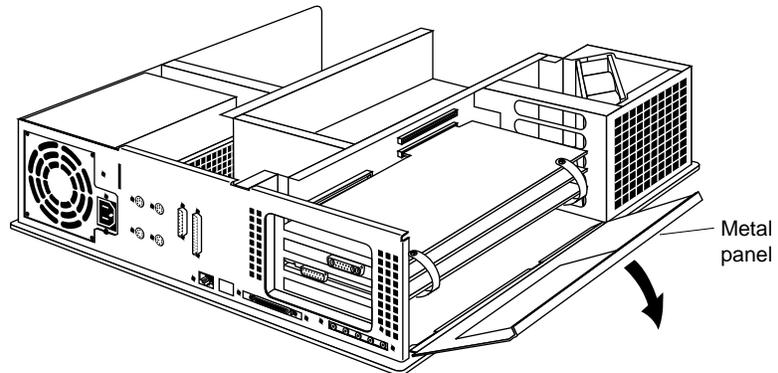

Figure 2-7 Opening the Metal Panel
2. Open the metal panel by lowering it (Figure 2-7).